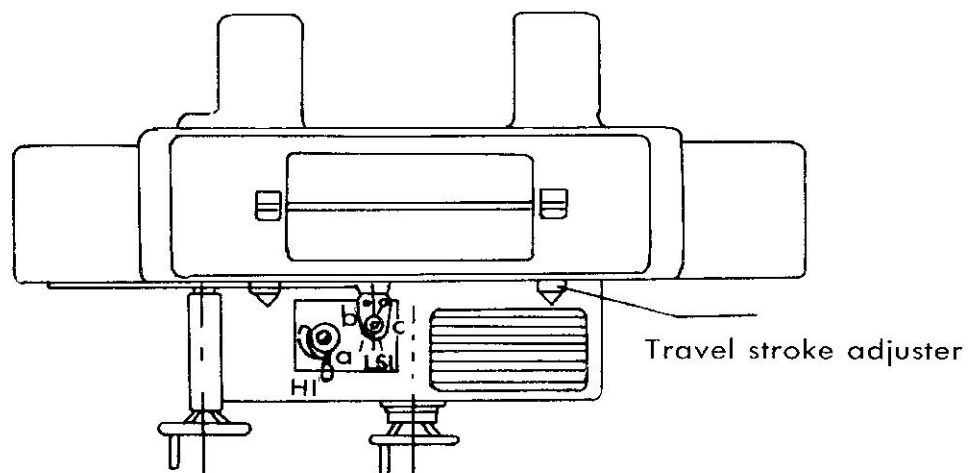

Figure P26
2. Turn the lever "H1" clockwise until the table starts slowly. (see figure P26)